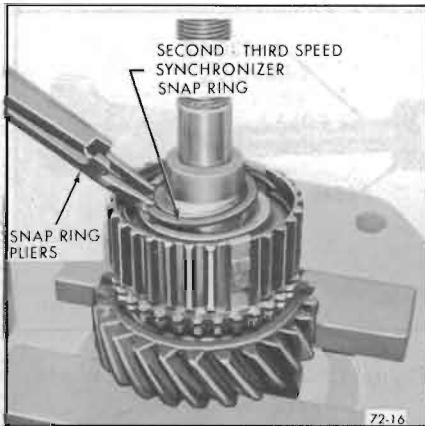

Figure 72-16—Removing Second-Third Speed Synchronizer Snap Ring
7. Remove second-third speed synchronizer assembly snap ring. See Figure 72-16.